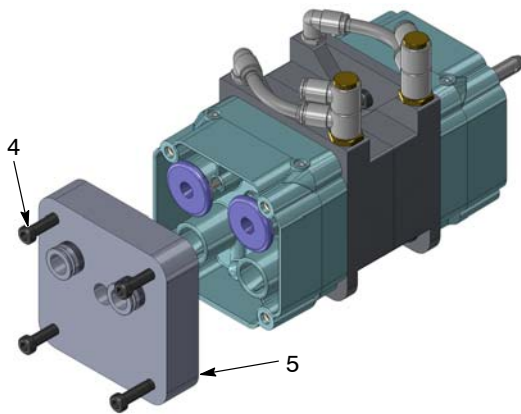

Figure 3 Removing Bottom Siphon Block Plate
2. See Figure 3. Remove the four cap screws (4) from the bottom of the siphon block (5).
- See Figure 3. Using a 4-mm Allen wrench, insert four cap screws (4) into the bottom siphon block (5) to connect the bottom block to the pinch valve blocks and middle blocks.